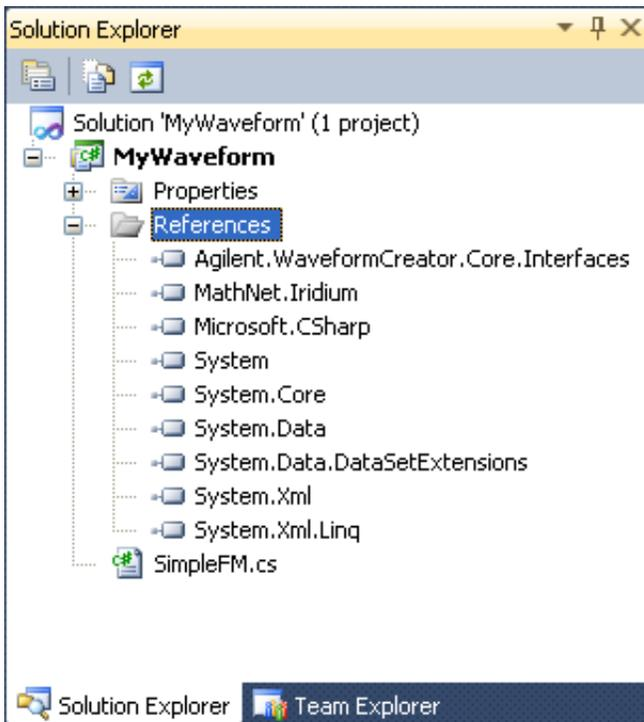

Figure 4. Solution explorer window with all references added.
6. The Solution Explorer pane should now look like Figure 4. These are the only external references you will require to work with Waveform Creator.